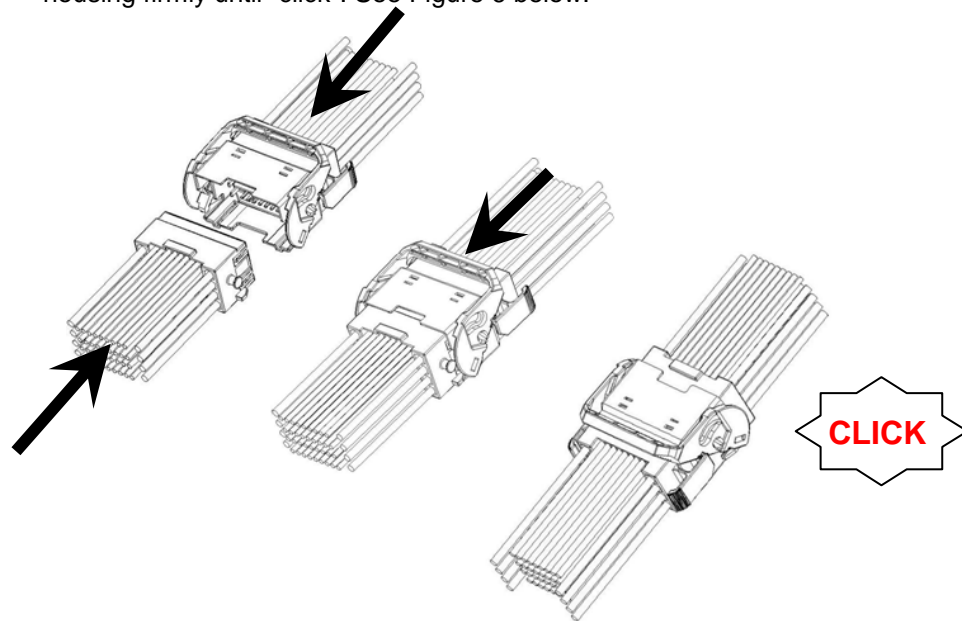

Figure 6
- a) Insert the connectors (REC and TAB), then lift REC housing at the same time hold TAB housing firmly until "click". See Figure 6 below.
- a) Revolve the connector lock and pull off the connector 44 Pos. Rec./Tab. at the same time in the direction shown by the arrows; see Figure 6 below.